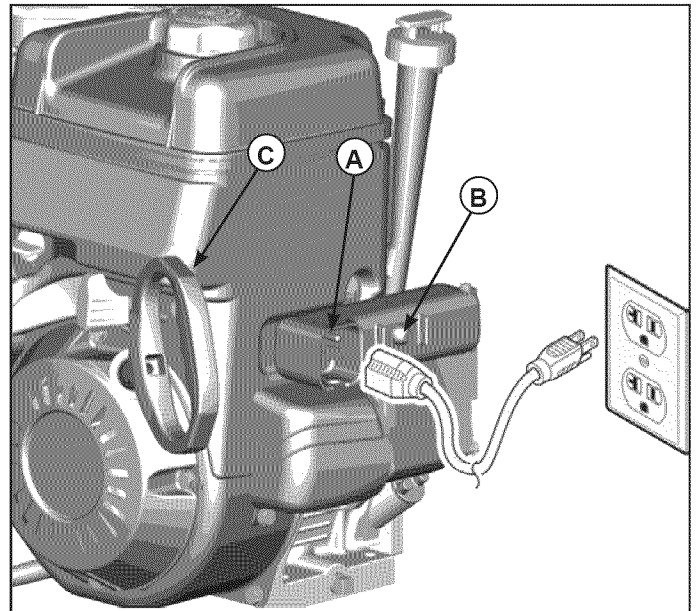

Figure 20. Engine Start - Electric
9. **Electric Start:** First connect the extension cord to the power cord receptacle (A, Figure 20) and then into a wall receptacle. If an additional extension cord is required, make sure it is a 3-wire.